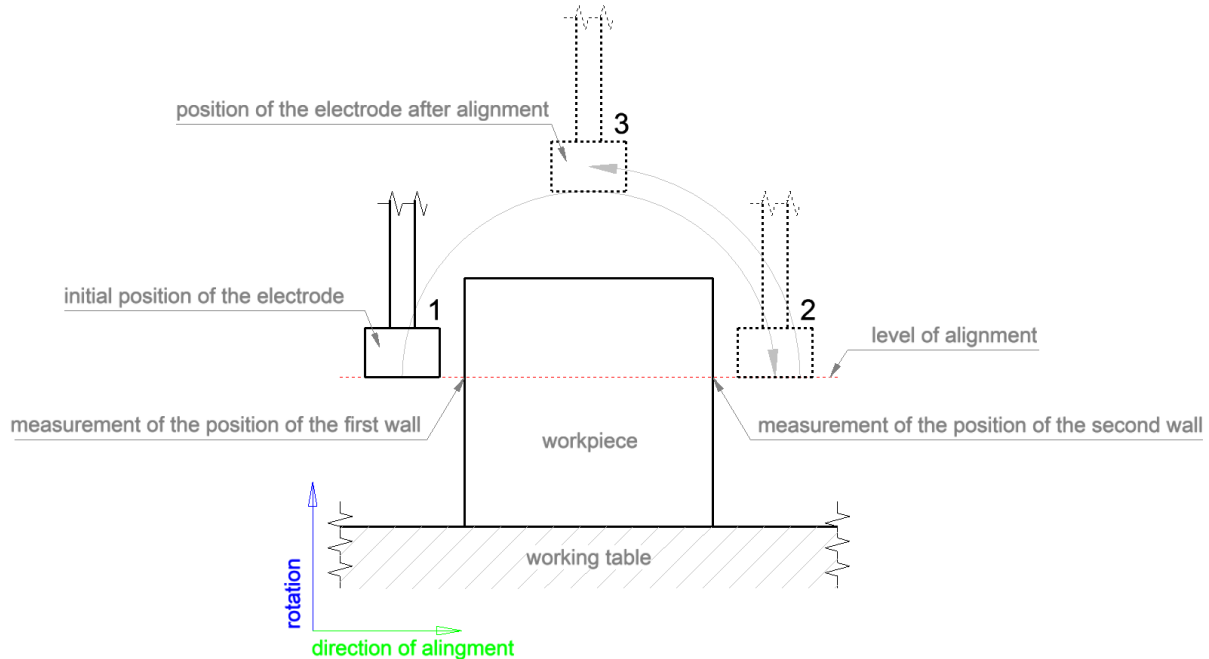

Fig. 4
- 1) Select the level of alignment, by defining the datum point of the electrode, in relation to the workpiece (see Fig. 4).
- 2) Select the direction of rotation around the workpiece (see Fig. 4).
- 3) Define the turning point of rotation, and the direction and turning point of alignment (see Fig. 4).